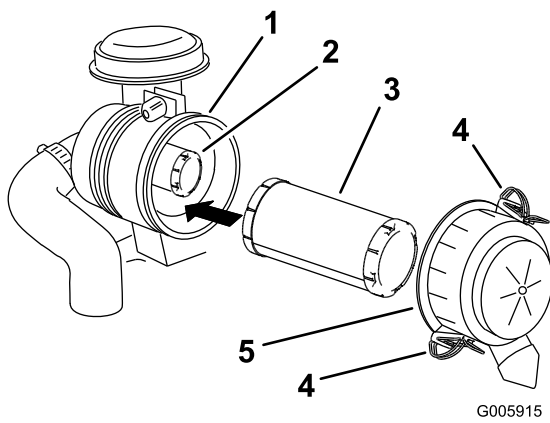

Figure 45
3. Release the latches on the air cleaner, and pull the air-cleaner cover off the air-cleaner body (Figure 45).
5. Gently slide the primary filter out of the air-cleaner body (Figure 45).
- Secure the cover with the latches (Figure 45).
- If the inner filter is being replaced, carefully slide it into the filter body (Figure 45).
- Carefully slide the primary filter over the inner filter (Figure 45).